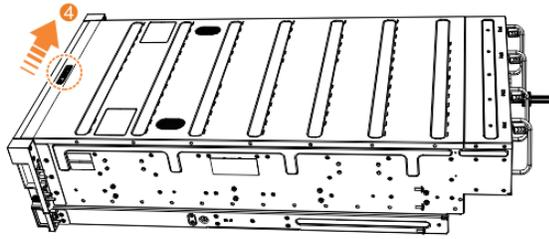

Figure 136. Locking the top cover
10. Lock the cover into position by sliding the release lever (4), as shown in Figure 136 on page 198